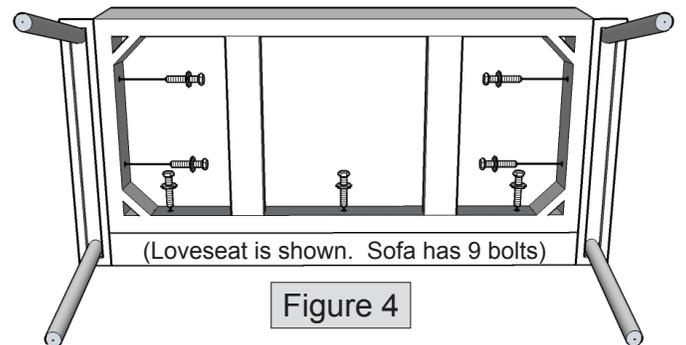

Figure 4
6. Attach seat cushion to back cushion and arm frames using 3" hex bolts and washers, as shown in figure 4. Keep all bolts slightly loose for now.